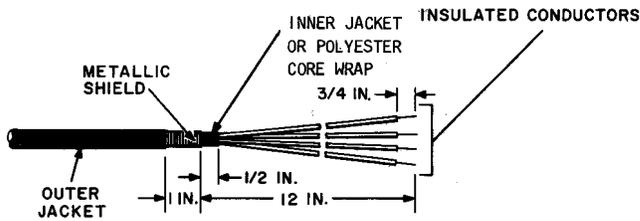

Fig. 17—Prepared Service Wire—K Type Cable Closure
5.10 Prepare service wire for termination in K cable closure as shown in Fig. 17.